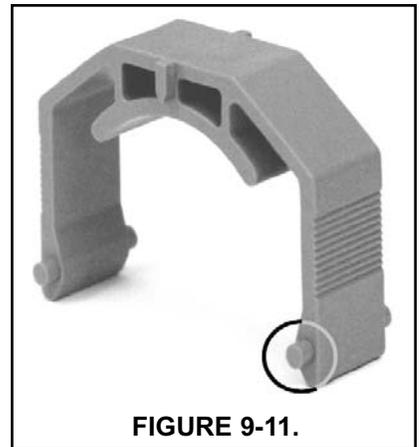

FIGURE 9-9.
6. Insert the new tubing one end at a time. Tongues on the sides of the gray fittings at the ends of the tube fit into receiving grooves in the pump casing. See Figure 9-9. Push the fitting into place until it clicks. Gently stretch the tubing over the rollers and insert the other fitting into the receiving socket on the other side of the pump.